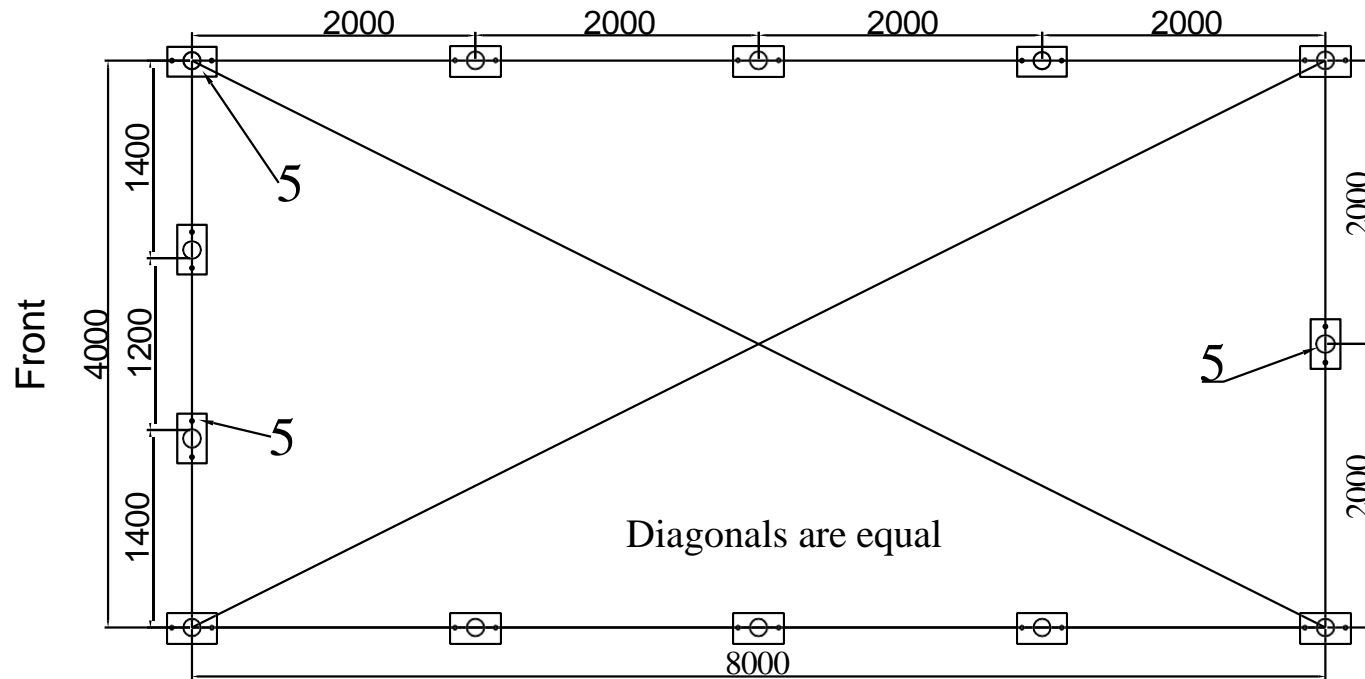

Figure 2 Position of Base Flanges
Begin by determining the exact location of the four (4) corners of the building. Mark the front edge and side-to-side width of the assembly on the ground. Drive alignment stakes into the ground outside of the markings, and draw alignment strings along both ends and sides of the building to the dimensions shown in Figure 2. The outline of the strings will represent the final location of the base flanges. The initial location of each Corner Base flange (5) is critical to the alignment and fit of the frame components and cover.
Locate the Left Corner Base Flange and Right Corner Base Flange (5). Secure the base flanges with Stake Pegs (Part #9). Measurements shown in Figure 2 are to the center of the upright sockets on each Base Flange.